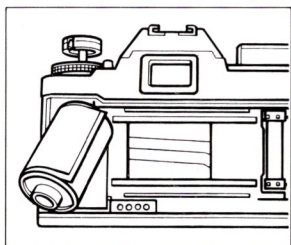

Fig. 32
3. Open the Back Cover and unload the film. (Fig. 32)